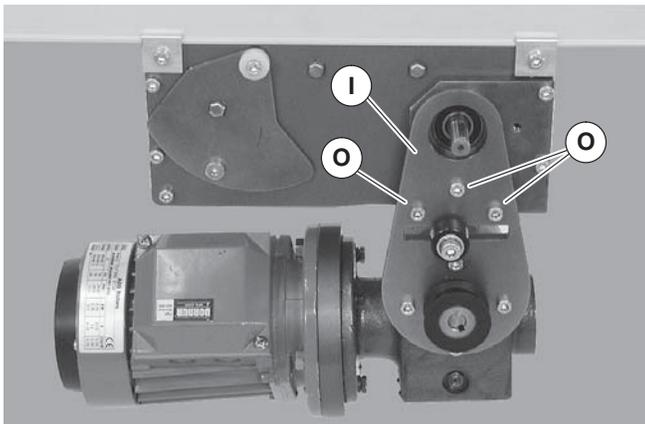

Figure 7
4. Attach mount assembly (Figure 7, item I) with mounting screws (O). Install long screws on bottom. Tighten screws to 80 in-lb (9 Nm).